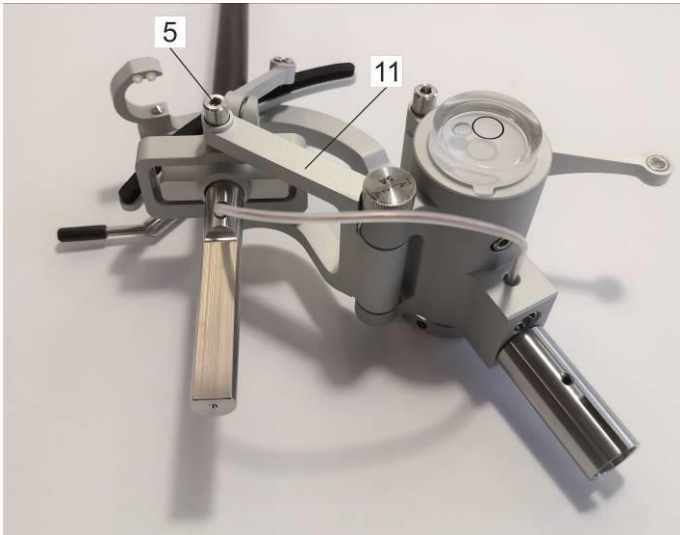

Figure 8
- m) Screw in the top bearing [5] of the back link [11] vertical axis and tighten it with your fingers without applying excessive force. **Needle of the bearing must be embedded in sapphire V cup.** (Figure 8).